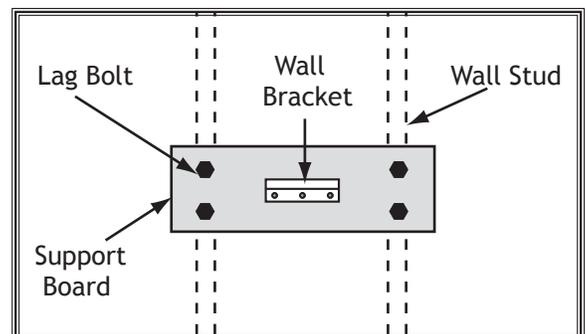

Figure 10. Wall bracket secured to support board on wall studs.
- If mounting to a wood framed wall (with or without drywall), bracket must be mounted directly to a support board that is wide enough to span and mount onto two wall studs. Mount support to wall studs with lag screws, then mount bracket to support with appropriate fasteners, as shown in **Figure 10**.